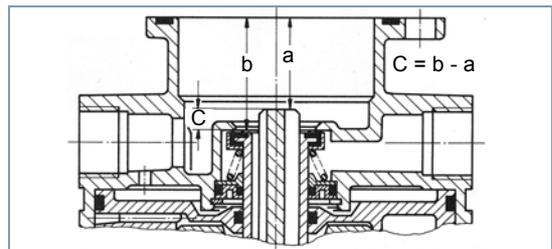

Fig. 3 Dimension C
- Measure dimensions a and b, dimension  $C = b - a$  (see fig. 3).